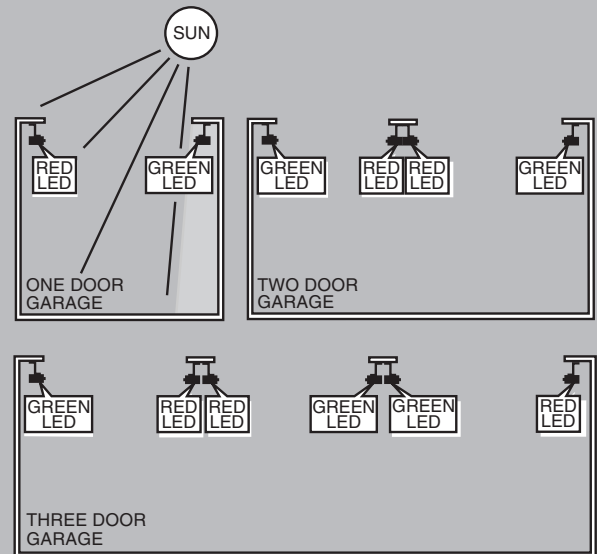

FIG. 2-4 STB locations
- Determine which side of garage receives most direct sunlight (Fig. 2-4), and place Red LED here whenever possible (Fig. 2-4).
- Place source and sensor modules on adjacent doors facing in opposite directions (Fig. 2-4).